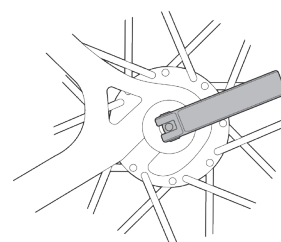
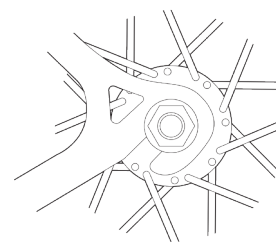

fig. 12a
fig. 13
4. With a cam action mechanism, move the quick-release lever to the OPEN position (fig. 12a). With a through bolt or bolt on mechanism, loosen the fastener(s) with an appropriate wrench, lock lever or integral lever (fig. 13); then push the wheel forward far enough to be able to remove the chain from the rear sprocket.
1. With a cam action (Quick Release) system, move the cam lever to the OPEN position (see fig. 12a). The lever should be on the side of the wheel opposite the derailleur and freewheel sprockets.
7. With a through-bolt or bolt-on system (fig. 13), tighten the fasteners to the torque specifications in Appendix D or the hub manufacturer's instructions. Use the correct size wrench; tighten the axle nuts enough so that the wheel stays in place; then use a wrench on each nut simultaneously to tighten the nuts as tight as you can.